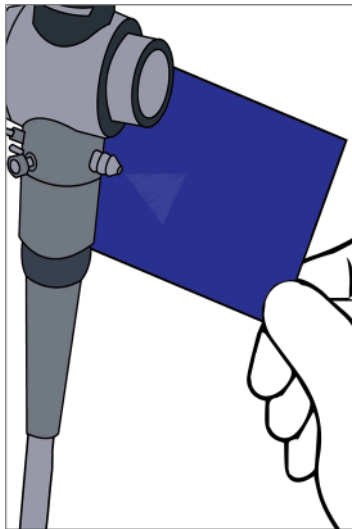
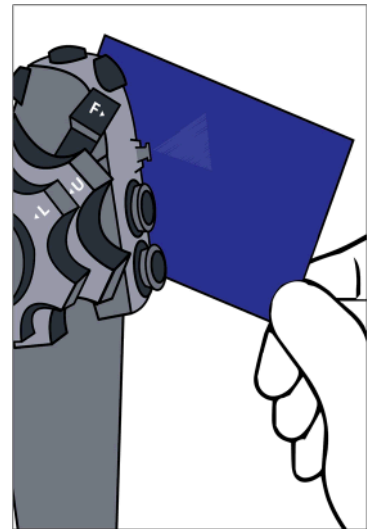

Figure 2B
Figure 2C
<p>Steps for Use of Product</p>	<ol style="list-style-type: none"> 1. With dry gloved hands, after drying any lumen/channeled items according to the manufacturer’s IFU, with the same air source used to dry the scope, flush air through the biopsy port. 2. On the flipside of the card, with a gloved hand, hold the ScopeDryCheck™ in one of the corners with the blue side up, ready to test if the lumen/channel is dry, while blowing air, aim the scope one (1)-cm away from the card in the following sequence: <ol style="list-style-type: none"> A. Distal end: Flush air through the biopsy port. (Fig. 1, 2A). B. Suction connector: Flush air through the suction valve port. (Fig. 2B). C. Auxiliary water inlet: Flush air through the suction valve port. (Fig. 2C). 3. If any white dots are visible at any time during this test procedure: <ol style="list-style-type: none"> a. resume drying of the item. b. Retest with a new card. (Fig. 3). 4. Repeat test until no white dots are visible.